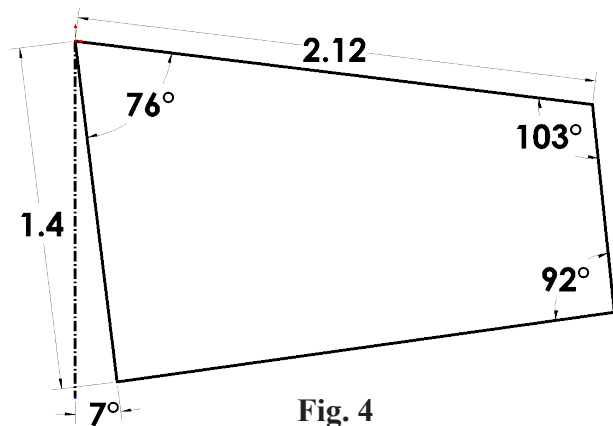

Fig. 4
Step 3. Click **Smart Dimension**  (S) on the Sketch toolbar.
Step 4. Add dimensions, **Fig. 4**.